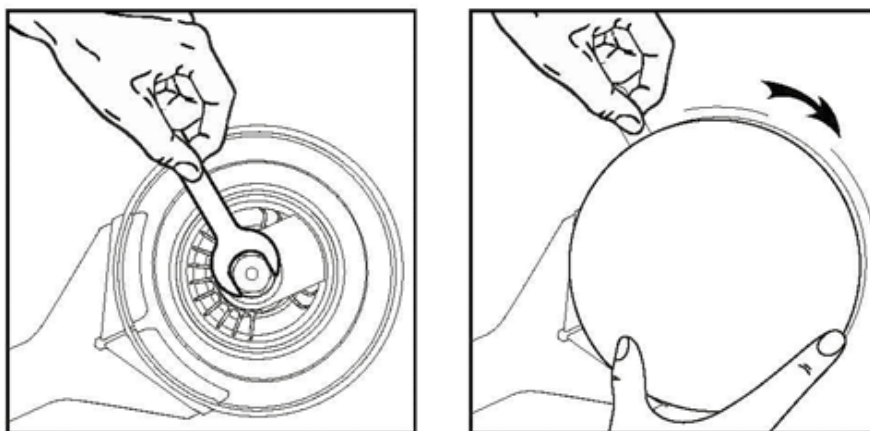

Figure 5
2. To remove the Disc Pad, insert the flat wrench between the Disc Pad and shroud. Secure the Spindle with the flat wrench and unscrew the Disc pad. - see figure 5.